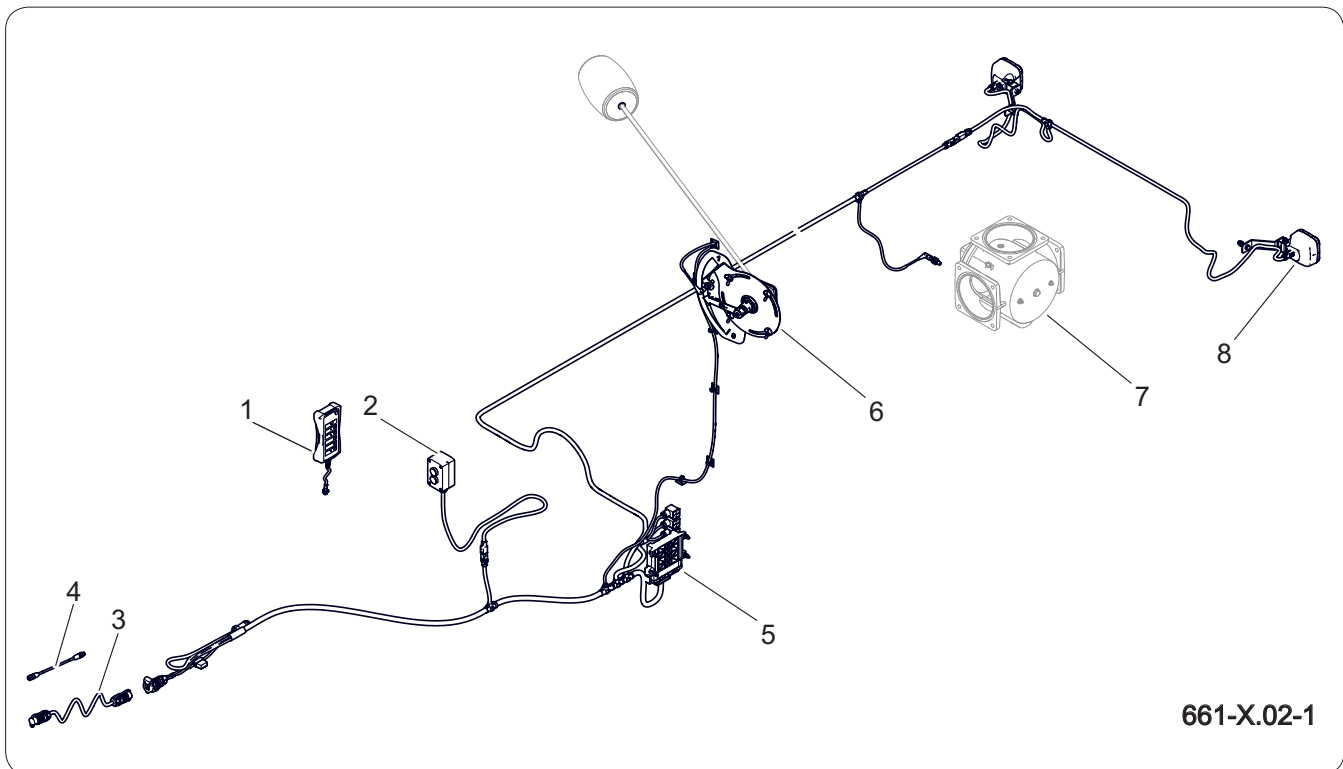

Figure 5.1 Arrangement of elements of the electrical control system
Aggregation	<p>Connect the three-pin power connector to the tractor's 12V socket.</p> <p>Activate the appropriate section on the tractor's external hydraulic manifold, supplying the machine's hydraulic system.</p> <p>Press the ON/OFF button - (1) figure 5.1)</p>